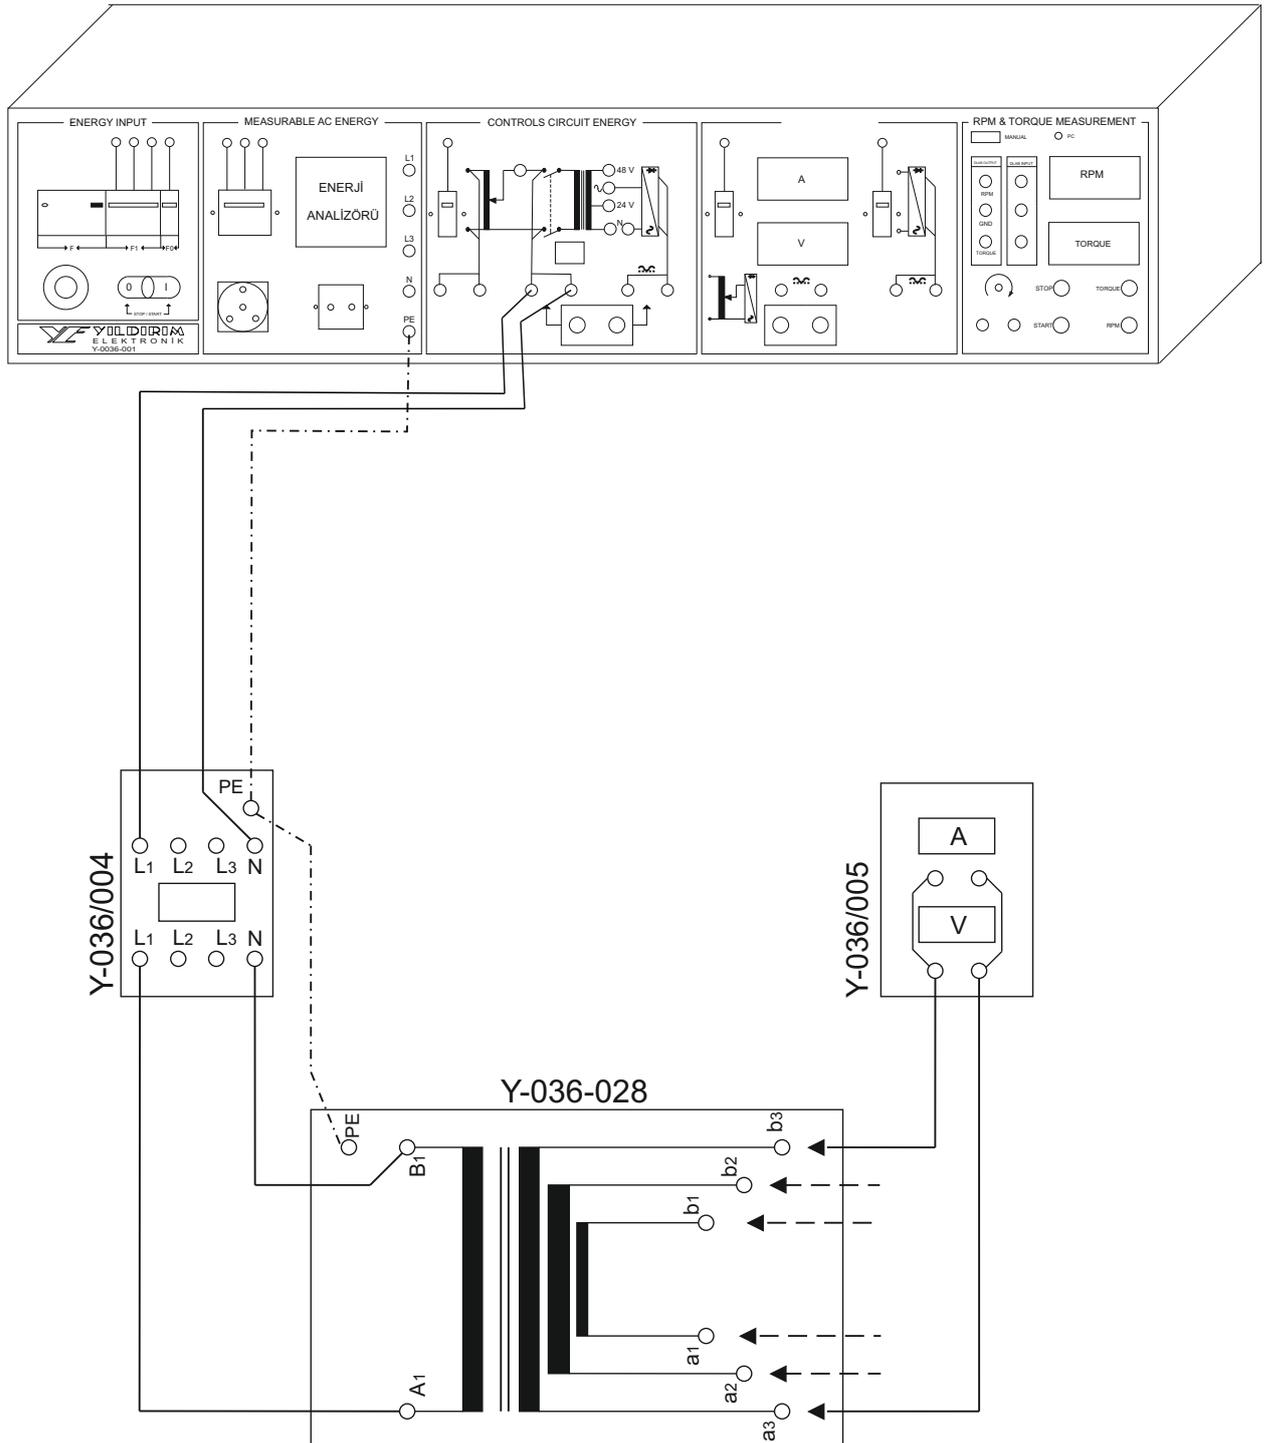

Figure 22.1 Connection diagram of short circuit test for the single phase transformer.
- Connect the circuit shown in the figure 22.1 and 22.2.